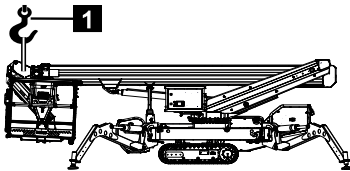

Fig. 254
- 2. Secure the telescopic boom using a crane (Fig.254/1).